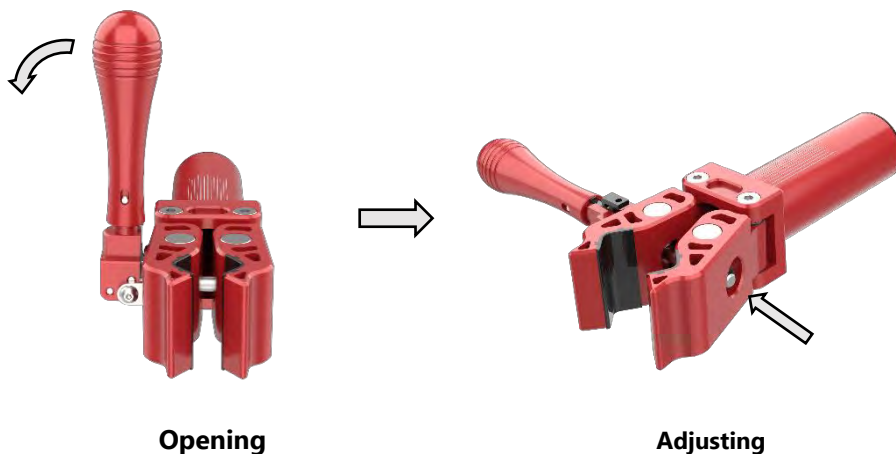

Figure 21. Opening and adjusting the width of the Clamp Jaws.
- Close the Clamp Jaws and then adjust the Clamp Jaw Tensioning Nut (see Figure 21) to 8 Nm Torque (example) or whatever the User is able to comfortably manage. If the User is unable to close the clamp with the Clamp Jaw Tensioning Nut set at 8 Nm of torque, then an Auto Clamping model is required.